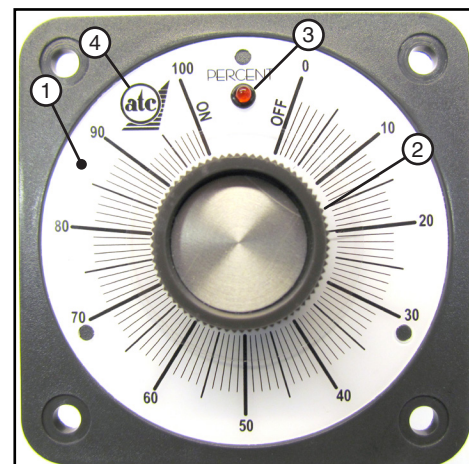

Figure 32-2 1. ATC Percent Timer Shown
- Machine Running: When a change is made to the percent timer setting during operation, the change is recognized immediately and the timer begins working on the new setting. See Figure 32-2.